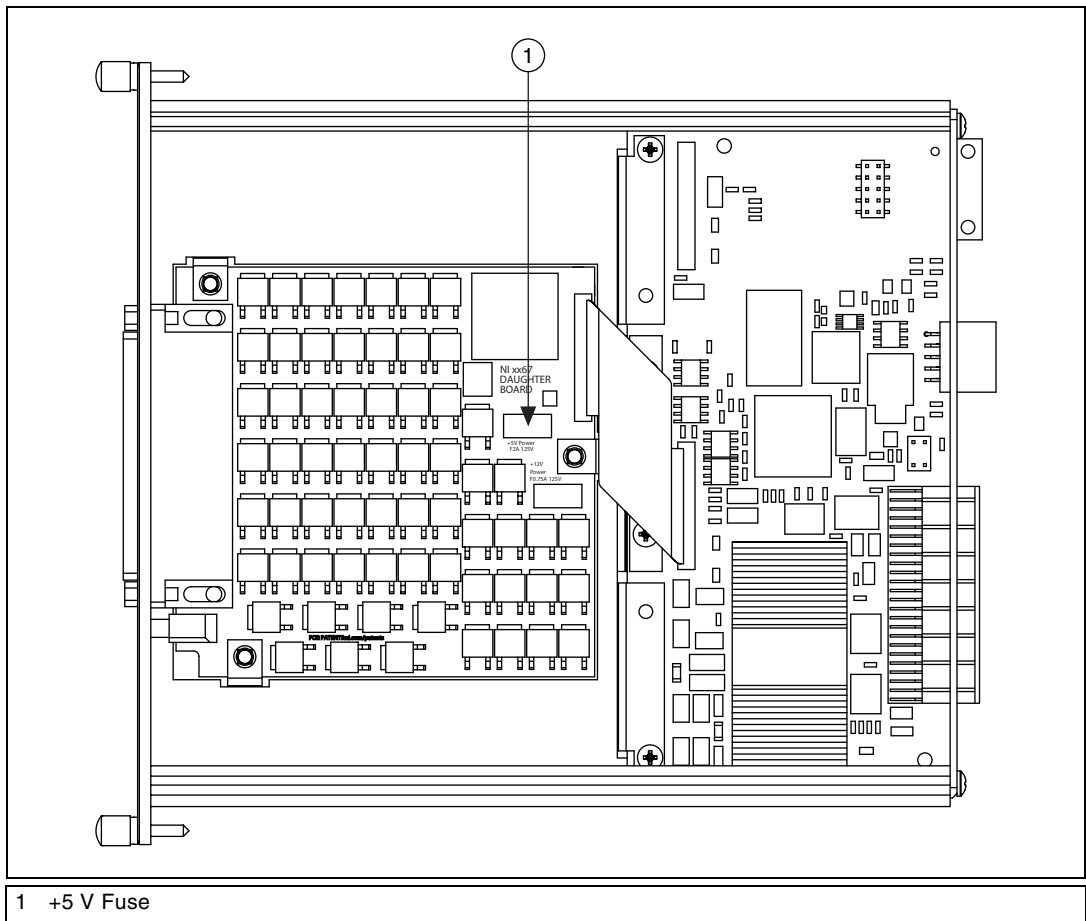

Figure 2. NI SCXI-1167 Daughterboard Diagram with Fuse Location
5. Replace the blown fuse. Refer to Figure 2 for the fuse location.